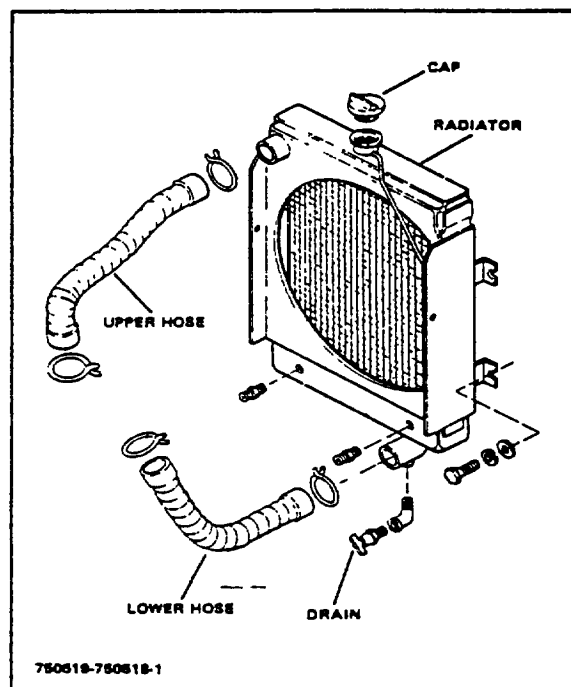

Figure 2-1. Radiator Assembly
The radiator (Figure 2-1) is of the fin and tube type and is vertically supported by angle bracing to the truck frame. The front of the radiator is protected from structural damage by a heavy grille mounted in the counterweight. An overflow tube is connected to the filler neck and leads to the bottom of the radiator.
7. Close the cooling system drain cock located below the alternator and at bottom of radiator (Figures 2-1 and 2-2). Fill system to recommended capacity with coolant; replace pressure cap and check for any leaks.